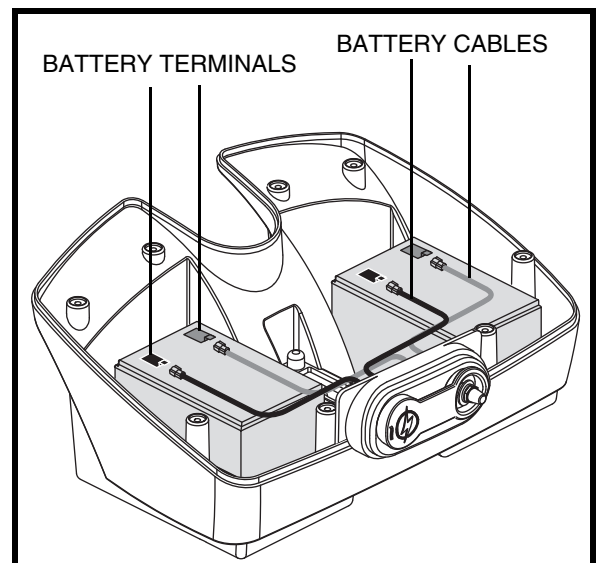

Figure 18. Battery Replacement (12 Ah Pack Shown)
3. Remove the eight (8) screws from the perimeter of the battery pack.
5. Disconnect the black (-) and red (+) battery cables from the battery terminals of each battery. See figure 18.